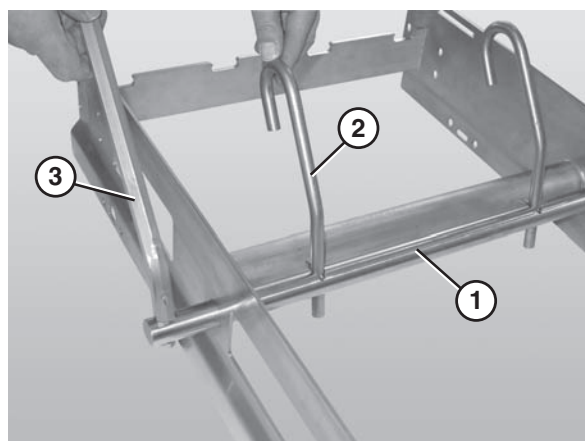

Figure 26
- Slide the belt lift pivot bar (Figure 26, item 1) through the designated holes in the frame.
- Attach the lifter bars (Figure 26, item 2) to the belt lift pivot bar (Figure 26, item 1). Make sure the hooked ends of the lifter bars are facing down when resting against the frame.
- Attach the lifter handle (Figure 26, item 3) to the belt lift pivot rod.